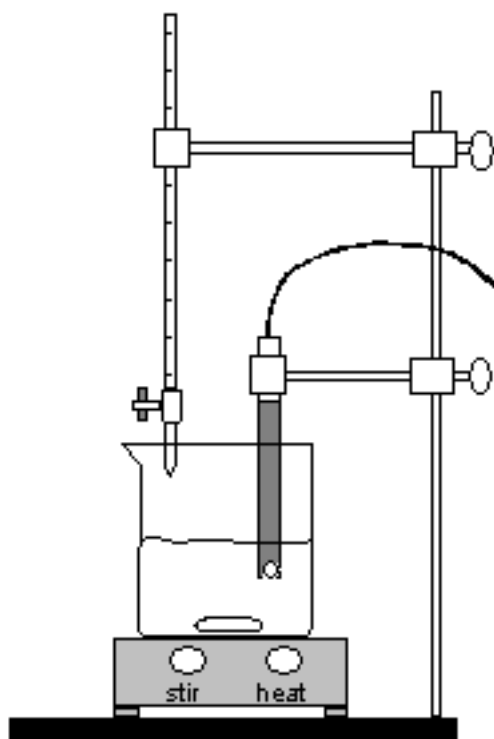

Figure 3: Experimental Setup
- 8 Carefully position the pH electrode in the 250 mL beaker until about 1/2 inch of the tip is in the solution. Clamp to the ring stand with the clamp provided. Be sure that the stir bar will not strike the pH electrode. If necessary, add more water from a graduated cylinder. See Figure 3 for the complete setup.
- 9 Position the buret so that the tip of the buret is just inside the beaker. Refer to Figure 3
- 9 Carefully position the pH electrode in the 250 mL beaker until about 1/2 inch of the tip is in the solution. Clamp to the ring stand with the clamp provided. Be sure that the stir bar will not strike the pH electrode. If necessary, add more water from a graduated cylinder. See Figure 3 for the complete setup.
- 10 Position the buret so that the tip of the buret is just inside the beaker. Refer to Figure 3.